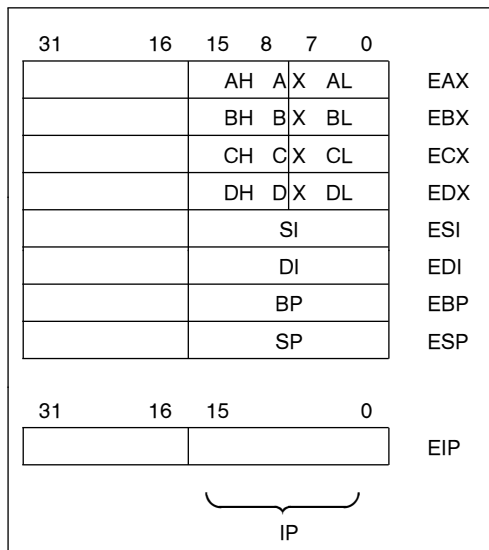

Figure 2-2. General Registers and Instruction Pointer
General Purpose Registers: The eight general purpose registers of 32 bits hold data or address quantities. The general registers, Figure 2-2, support data operands of 1, 8, 16, 32 and 64 bits, and bit fields of 1 to 32 bits. They support address operands of 16 and 32 bits. The 32-bit registers are named EAX, EBX, ECX, EDX, ESI, EDI, EBP, and ESP.
The instruction pointer, Figure 2-2, is a 32-bit register named EIP. EIP holds the offset of the next instruction to be executed. The offset is always relative to the base of the code segment (CS). The lower 16 bits (bits 0–15) of EIP contain the 16-bit instruction pointer named IP, which is used by 16-bit addressing.